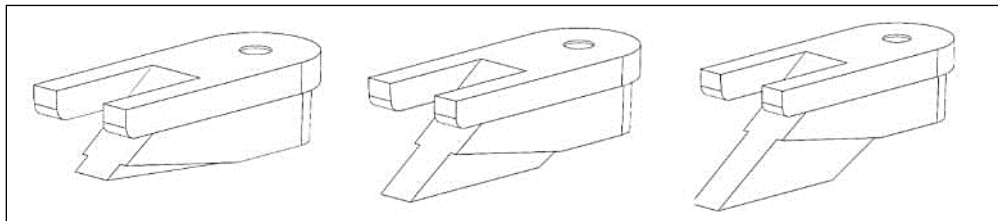

Figure 1. TGB Configurations (three depths available for each width)
- 3.1.1. Select an appropriately sized (depth and width) TGB for the application or task being performed. See **Figure 1**.